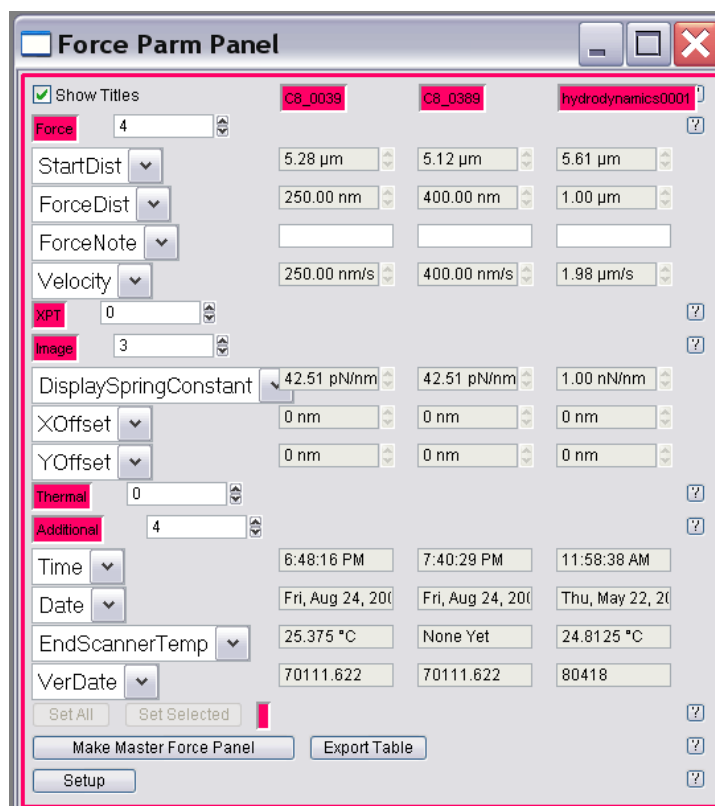

Figure 11.5.2C.1: The Parm tab shows stored parameters values for each open curve.
Figure 11.5.2C.1 shows a Parm Panel the author set up to display desired parameters. Notice in XPT & Thermal, the setvar is set to zero because none of those parameters are of importance to the author in this example. Also notice that are three force curves' acquisition parameters displayed in the columns on the right.
- The author will often make an additional Parm Panel, as in Figure 11.5.2C.1 (*notice no upper tabs!*), so that curves can be selected in the *Display* tab without having to shuttle between Parm and *Displays* subtabs to look at the parameters. This feature is great for working offline on the curves you are trying to remember what occurred during the experiment.
- Figure 11.5.2C.2 shows an example of two consecutively acquired force curves with the same parameters. Before changing the InvOLS value on the black curve, the slopes are the same (Figure
11.5.2C.2B inset); After changing the InvOLS to half its initial value, the slope of the contact regime is updated (Figure 11.5.2C.2B).
Figure 11.5.2C.2: Changing setvar values in the *Parm* subTab: A) two consecutive curves with same parameters, but changing black curve to roughly half the InvOLS value; B) result in slope of contact regime (Inset: same InvOLS values)